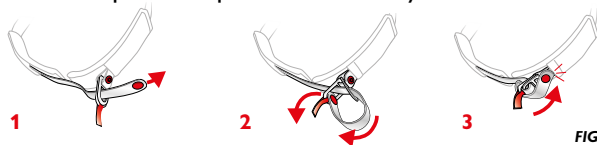

FIGURE 1
**SYSTÈME DE RETENUE DOUBLE D-RING — Figure 1**